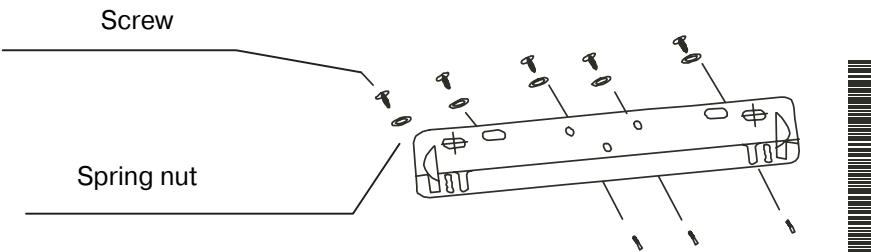

Figure 6. Mounting plate fixing.
- e) Install Air Curtain on the mounting plate. A interval must be more than 100 mm (Fig.6)